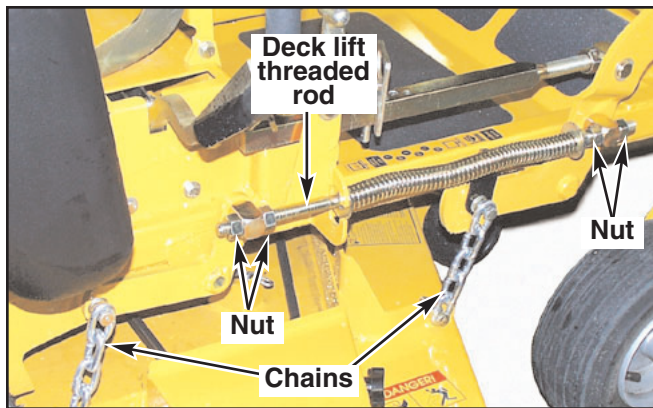

Figure 11-36
20. Make sure that there is still slack in the chain. If not, loosen the two nuts on the block holding the threaded rod until there is slack in the deck lift chain. Fig. 11-36